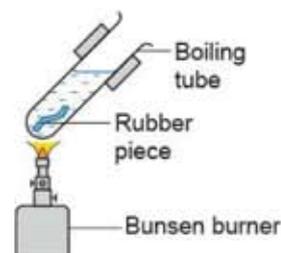

Figure 9.9 Setup of apparatus
2. Heat it slowly with a Bunsen burner (Figure 9.9).